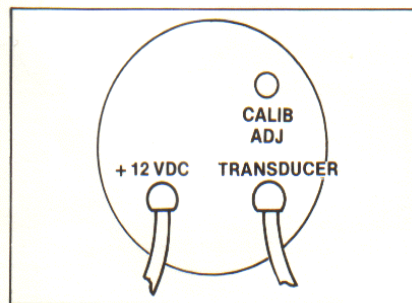

Figure 4.1
3. Determine the boat's average speed by referring to Table 1. Without reducing speed, compare the calculated speed from the table with the displayed speed on the indicator. If they differ, use the calibration screwdriver to turn the "CALIB ADJ" pot on the back of the indicator until the display speed equals the calculated speed (see Figure4.1).